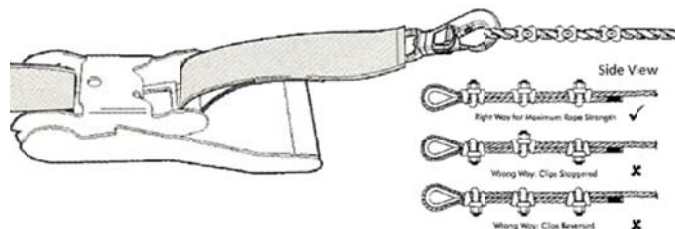

Figure 2.
4. Insert cable through snap hook on ratchet and pull cable as tight as possible. Secure cable to hook using the 3 cable clamps provided. (fig. 2)